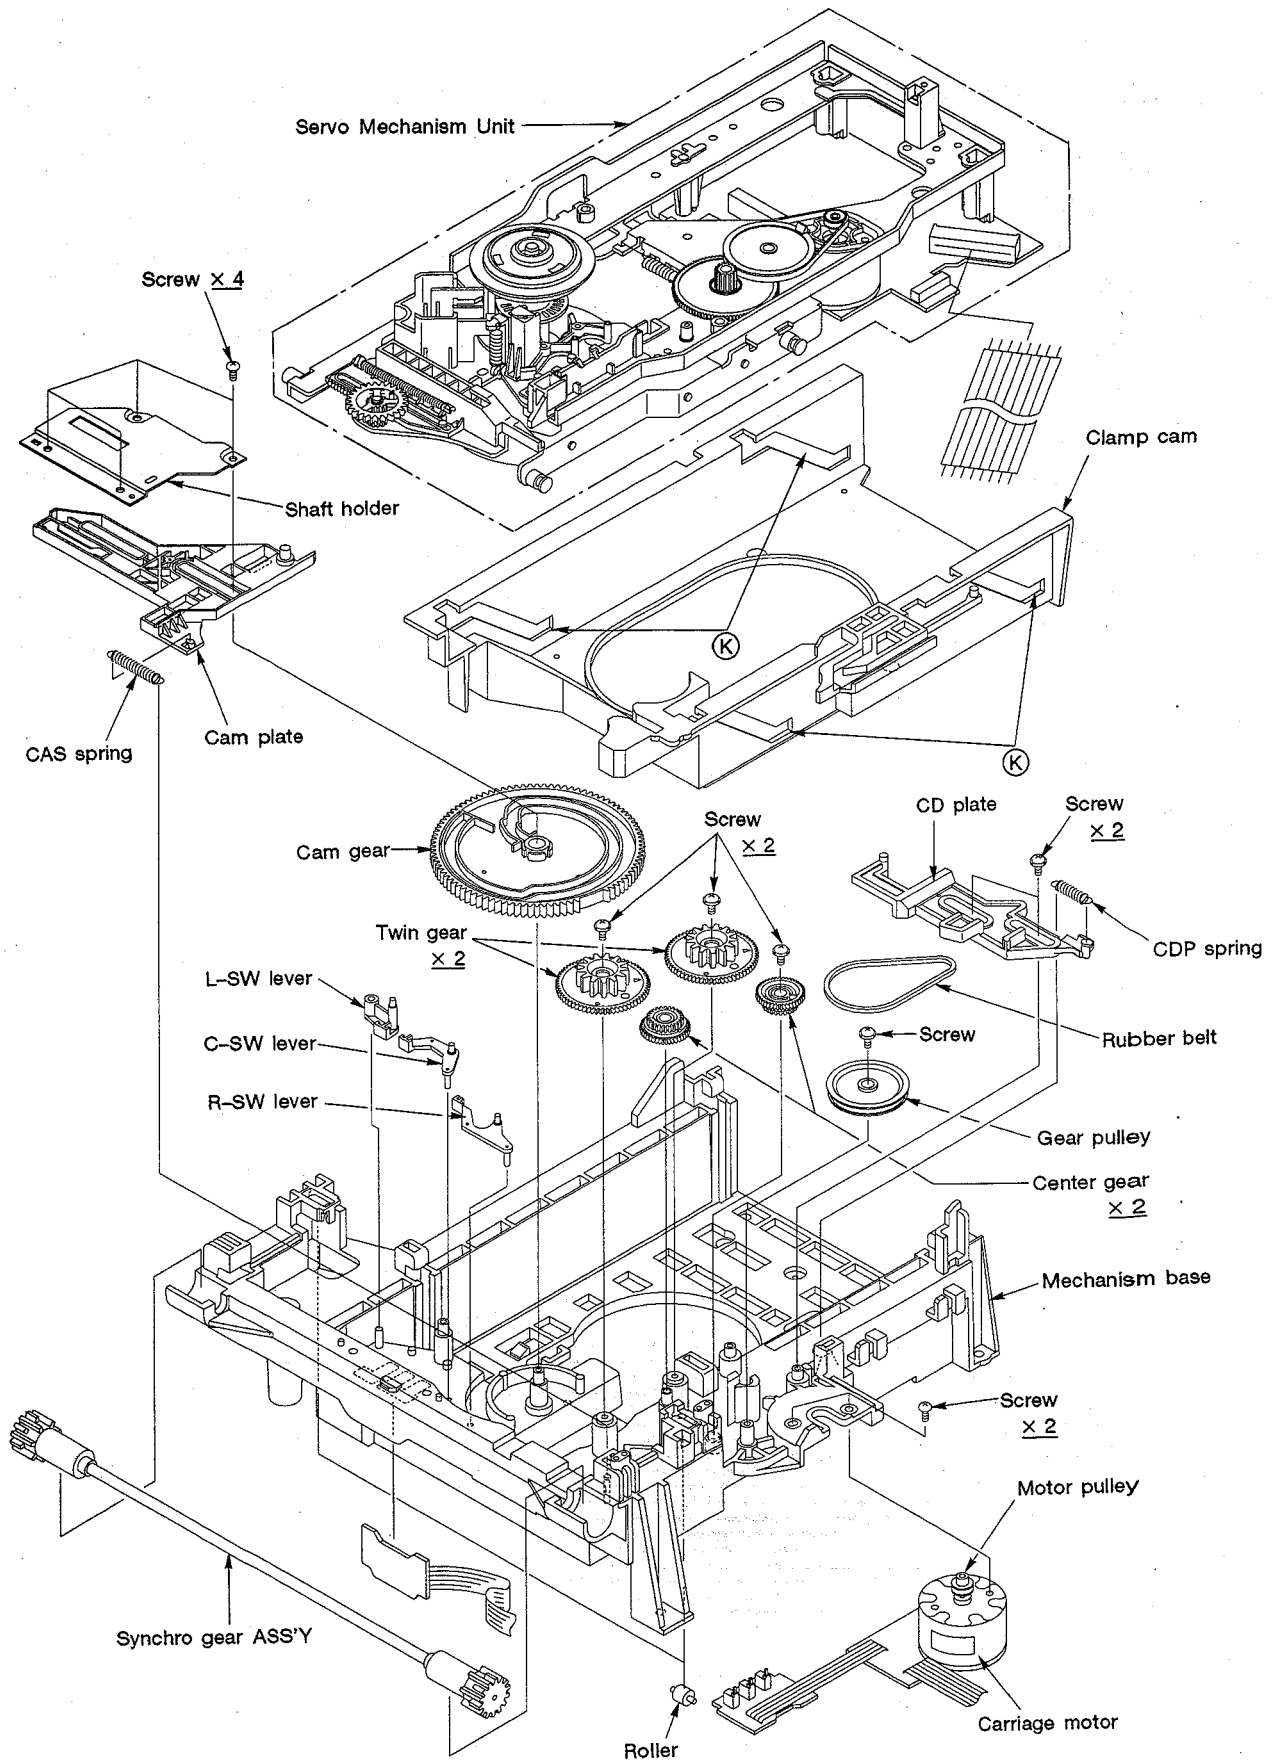
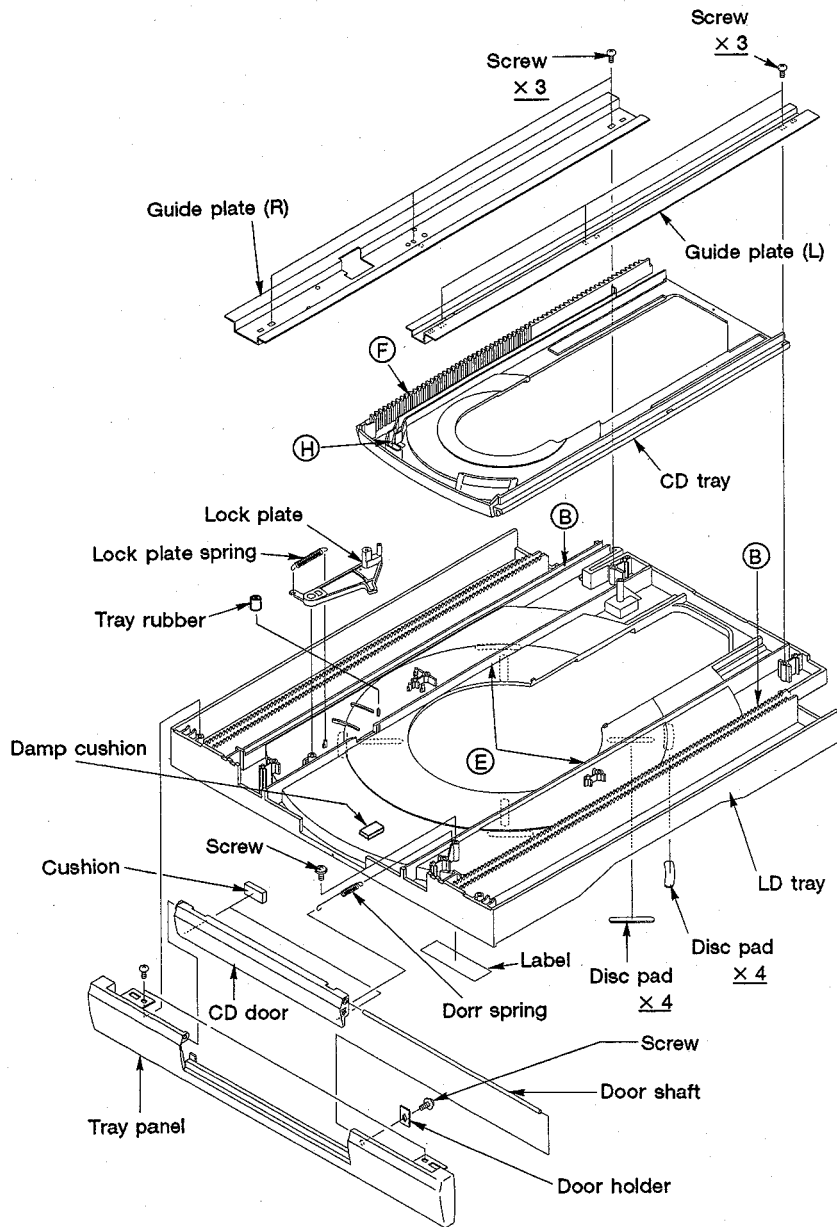
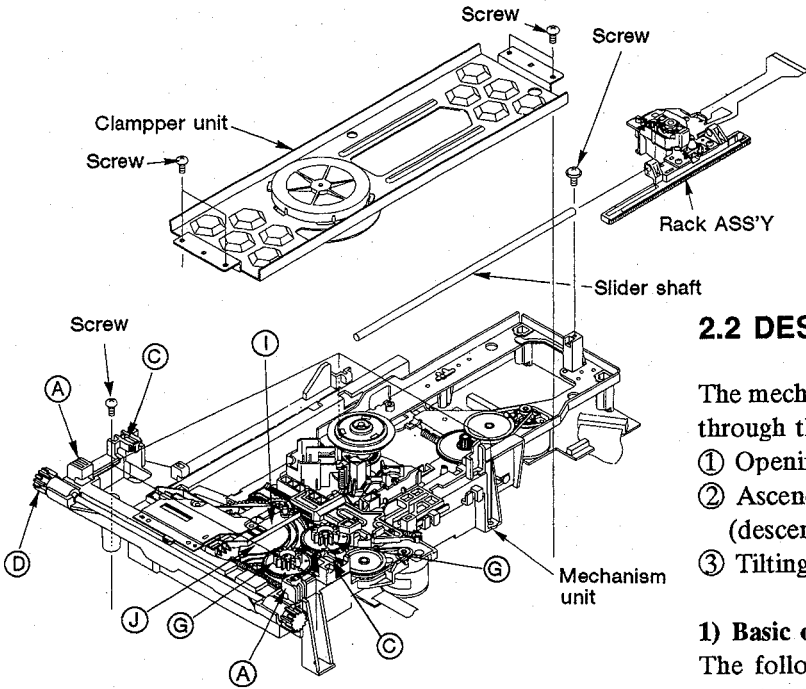
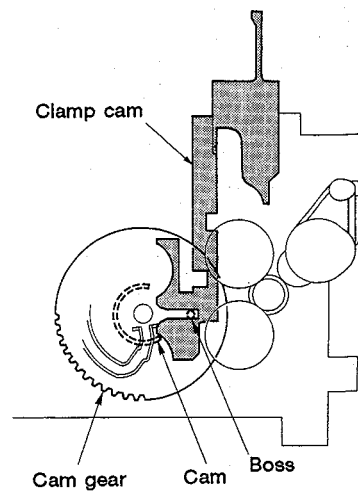

Fig. 2-2 Loading Mechanism unit
Fig. 2-4 Tray unit (Bottom view)
Fig. 2-5 Mechanical unit
Fig. 2-7
- ① Loading mechanism unit (Fig. 2-2)
- ③ Tray unit (Fig. 2-4)
① Loading Mechanism Unit (Refer to Fig. 2-2)
By attaching the servo-mechanism unit and tray unit to the loading mechanism unit, the operations of the mechanism are completed without using the casing and other supporting components (Fig. 2-2) (excluding the operations of the clamper unit and clamp).
③ Tray Unit (Refer to Fig. 2-4 and Fig. 2-5)
As a support system to the tray unit, two protruding portions ① (Fig. 2-5) are located on the front, left of the mechanism base, and a cam groove ② (Fig. 2-4) is located on the bottom side for the left/right movements
of the LD tray. Rollers ③ (Fig. 2-5) are located on the left and right of the mechanism base, and a synchro gear assembly ④ exists for the up/down movements of the LD tray. The synchro gear assembly ensures left/right synchronization. As for the CD tray, a protruding rib ⑤ (Fig. 2-4) is located on the bottom side of the LD tray for the left/right movements, while guide plates are located on the left and right of the rib for the up/down movements.
① Loading the Tray
While the rack gear ⑥ (Fig. 2-4) and twin gear ③ (Fig. 2-5) the bottom side of the CD tray are engaged, the cam gear ① is engaged with the twin gear ③. by moving the cam plate ① through the cam ④ (Fig.2-4) on the bottom side of the CD tray. (The rack gear on the bottom side of the CD tray is separated from the twin gear.)
② Ascending of the Servo-Mechanism Unit
The clamp cam is moved towards the rear by engaging the cam and boss on the back side of the cam gear to the clamp cam (Fig. 2-7). The servo-mechanism assembly ascends through the cam ⑤ (Fig. 2-2) on the clamp cam.